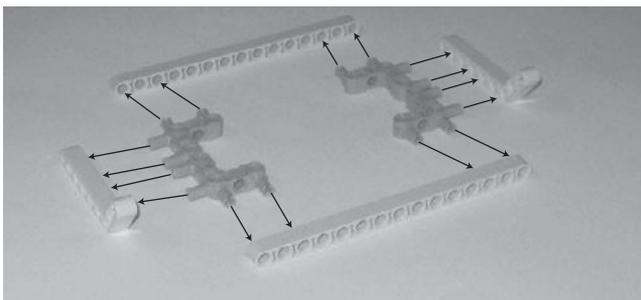

Figure 9.15
Step 1—Connect two 15M straight beams and two 3×7 angle beams using four pegged perpendicular block 5M pieces as shown in Figure 9.15. Make sure that when connecting the pegged perpendicular block 5M pieces to the 15M straight beams that you insert the peg ends of the pegged perpendicular block 5M pieces into the first and third holes on each end of the 15M straight beam.